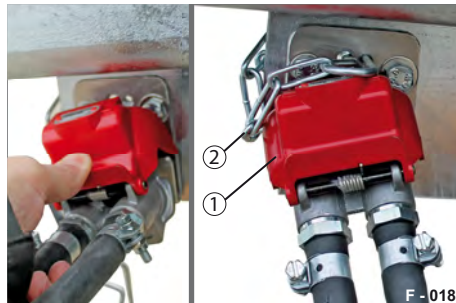

Fig. 21 Duo-Matic, parked
- ▶ Insert the spring pin (Fig. 21/2) into the bore holes.